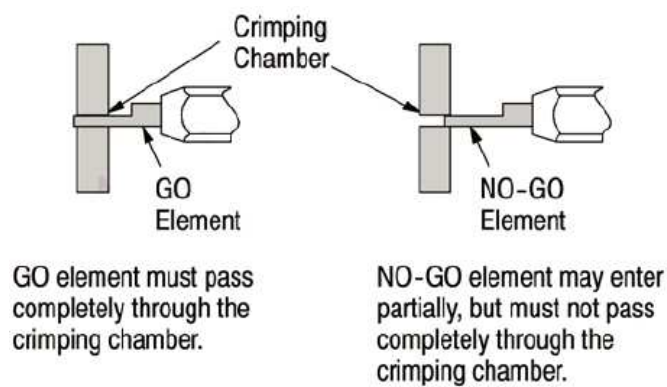

Figure 10
**B. To gage the crimping chamber, proceed as follows, referencing Figure 10:**